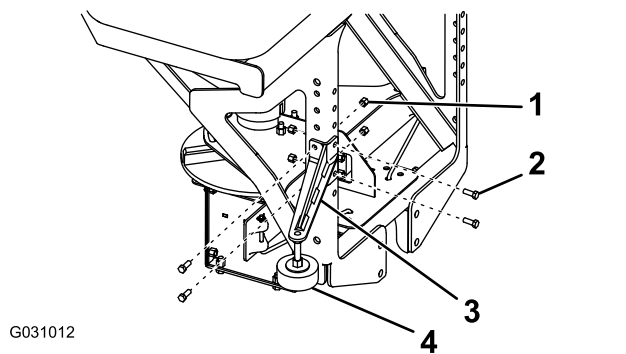

Figure 7
- Attach the stabilizer arms to the spreader frame using 8 bolts (3/8 inch) and 8 locknuts (3/8 inch), and torque the bolts to 27 Nm (19.7 ft-lb) as shown in Figure 7.
- Rotate the pads on the stabilizer arms until they are tight against your truck bed and tighten the jam nut to secure them (Figure 7).
8. Attach the stabilizer arms to the spreader frame using 8 bolts (3/8 inch) and 8 locknuts (3/8 inch) and torque the bolts to 27 Nm (19.7 ft-lb) as shown in Figure 7.
9. Rotate the pads on the stabilizer arms until they are tight against your truck bed and tighten the jam nut to secure them (Figure 7).